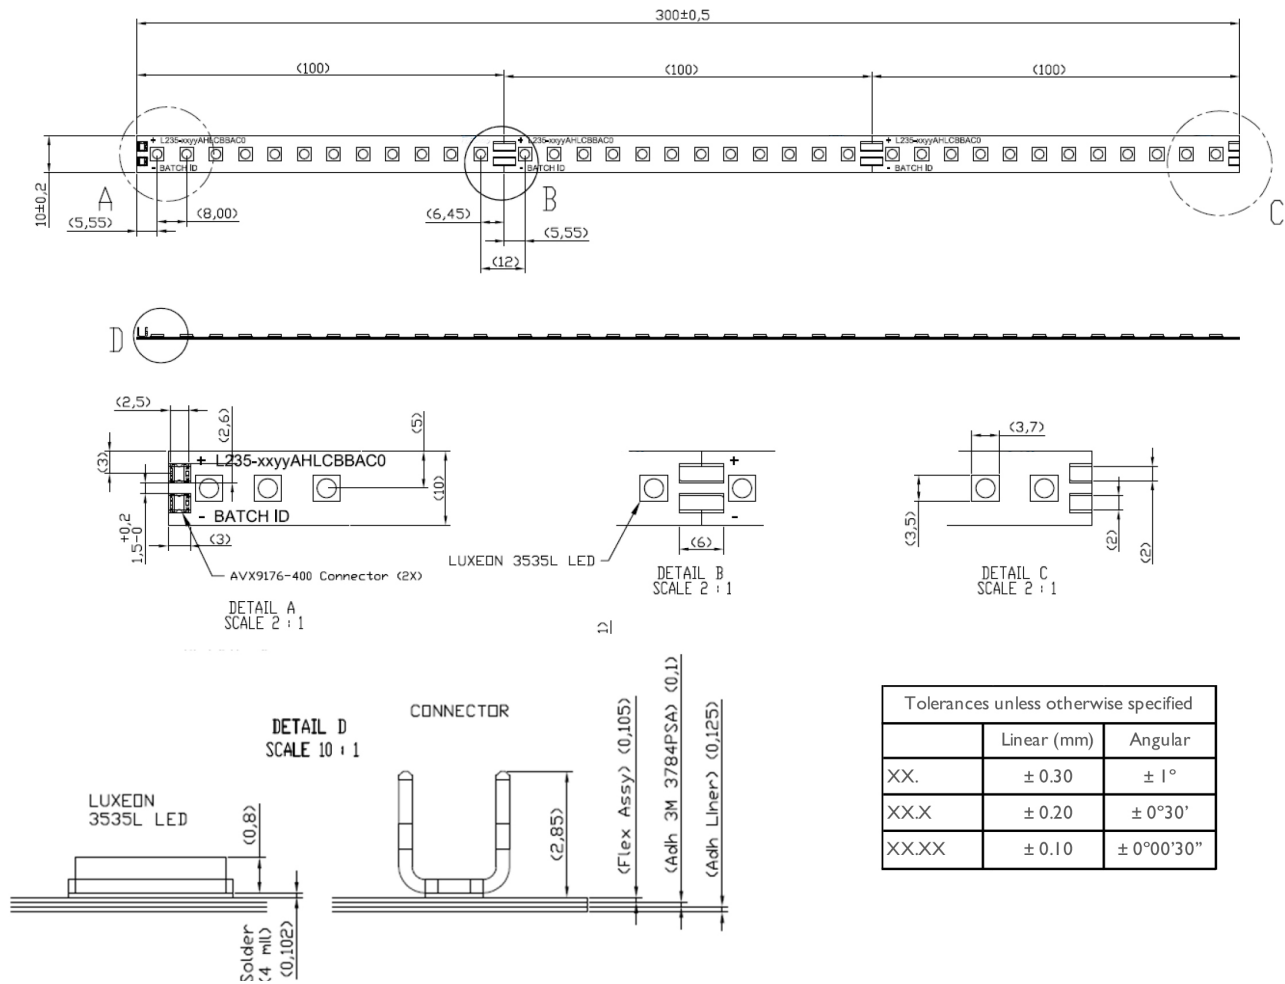

Figure 10: Mechanical dimensions for L235-xyyyAHL CBBAC0.
Notes for Figure 10:
- Notes for Figure 10: